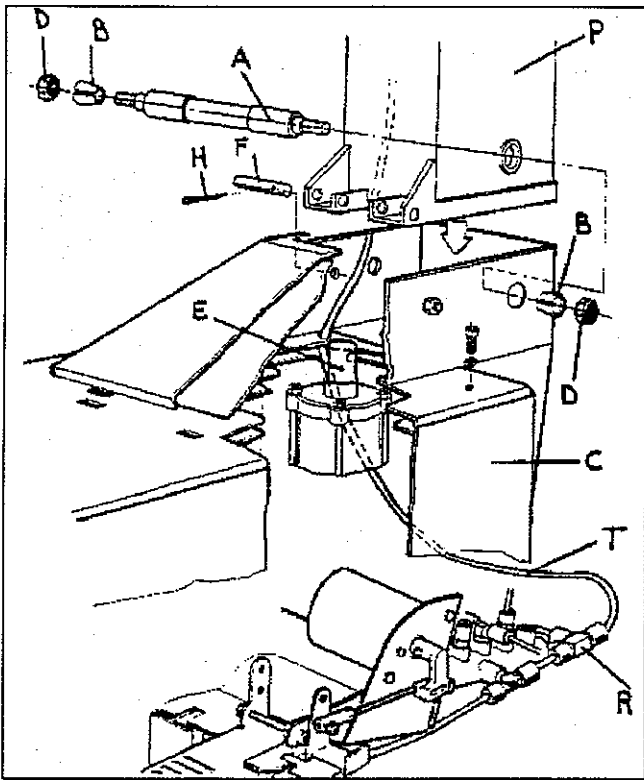

Fig.7
D. Mount the column 'P' as shown in Fig.7 and connect it to the cabinet through shaft 'A', nut 'D' and the conical bushings 'B'.